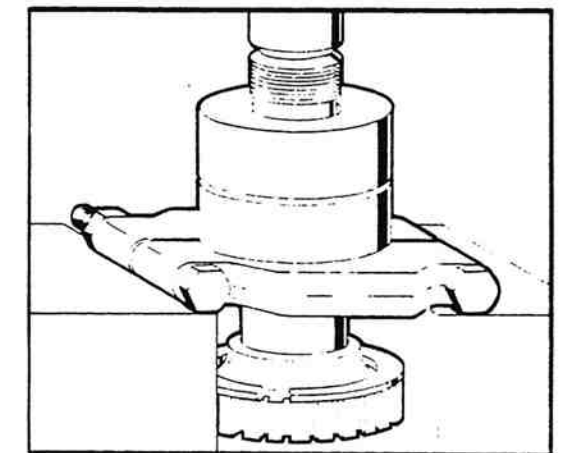

Figure 7-18. Drive Shaft Removal.
5. Install a bearing separator between the lower bearing and the drive spline and retaining ring (figure 7-18).